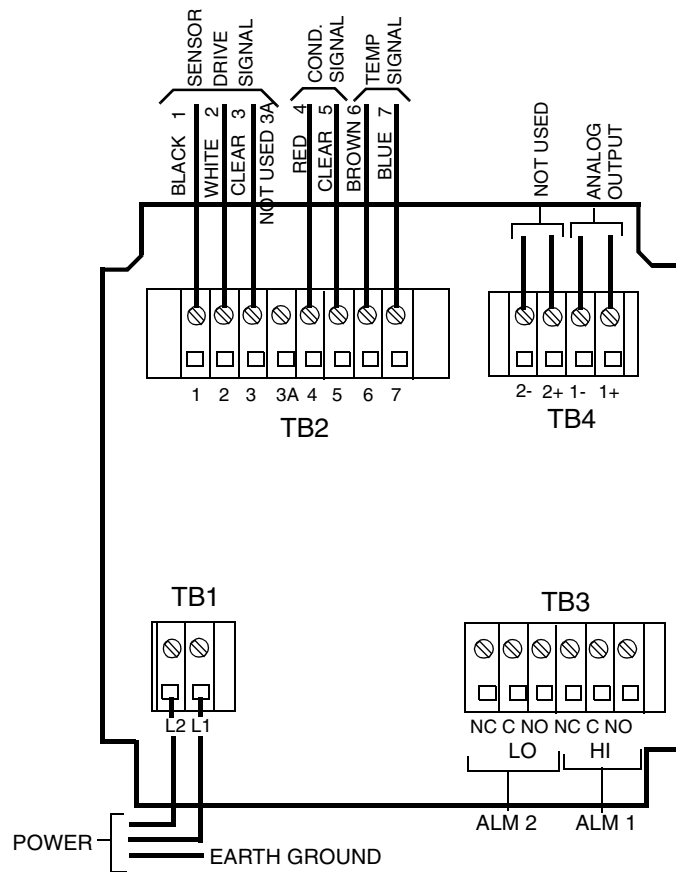

Figure 11. Rear Panel Wiring - Metal Enclosure
2. Connect ALM 1 and ALM 2 alarm wires to TB3 as shown in Figure 11. Failsafe operation requires connections to be made between contacts NC and C. Also see “Wiring of Alarms” on page 21.
4. Connect sensor wires to analyzer terminal block TB2 as shown in Figure 11.
5. Connect power wires to terminal block TB1 as indicated in Figure 11. The earth (ground) connection from the power cord should be connected to the ground stud located in the bottom of the case.